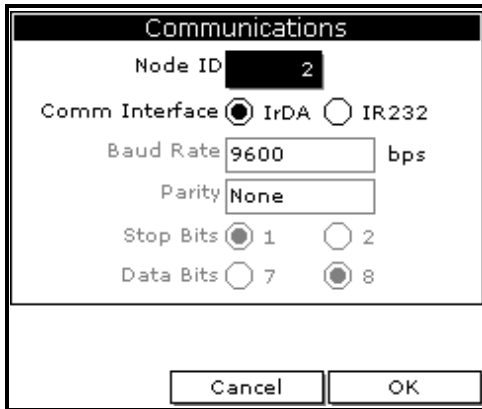

Figure 57: Communications Window
3. Use the arrow key to scroll to **Communication** and press [ENTER]. The Communications window appears similar to Figure 57.